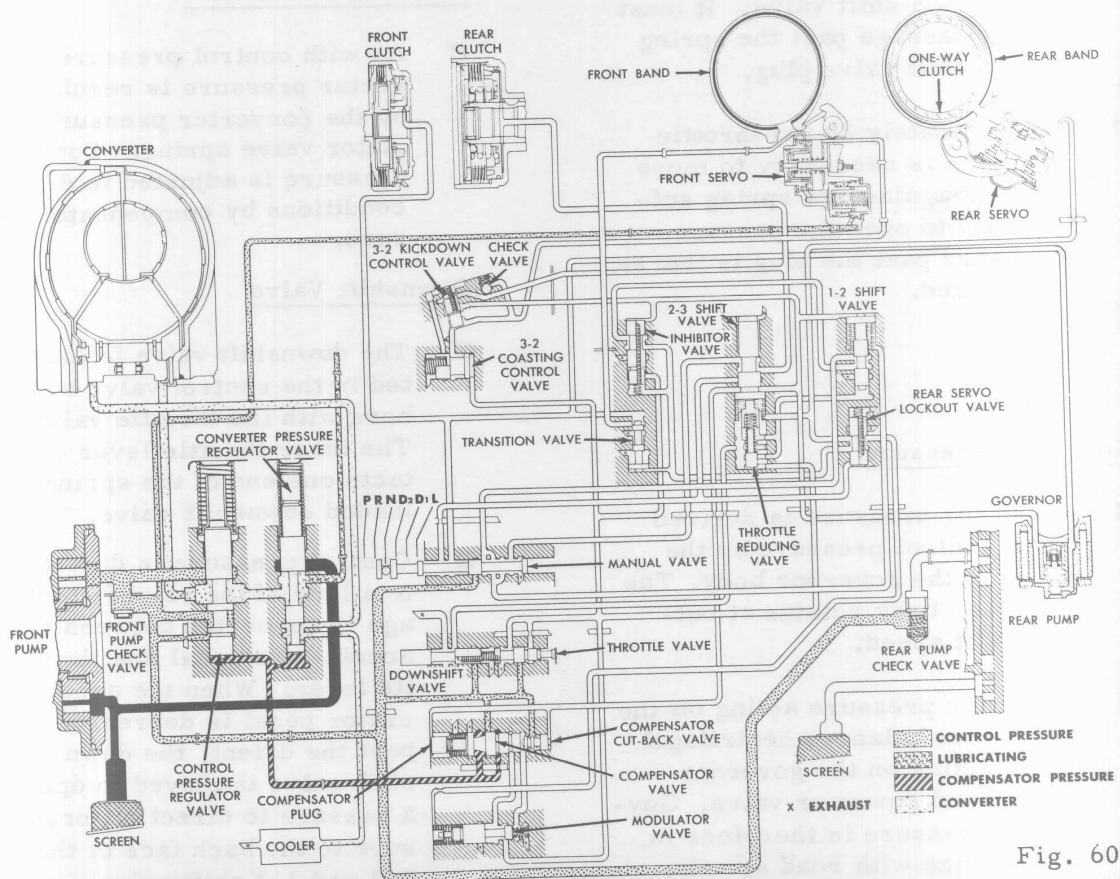

Fig. 60
- When in Drive 1 and Drive 2 ranges, modulated throttle pressure is directed to one face of the compensator valve (Fig. 60). This adjusts compensator pressure to accelerator pedal movement or engine torque.
- ⊗ Control pressure is regulated by the spring loaded control pressure regulator valve (Fig. 60). Control pressure is adjusted to engine torque, road speed, and selector lever position.
- ⊗ The manual valve in Neutral position blocks the oil flow to both clutches and both bands (Fig. 60). The clutches and bands are released by spring pressure with no fluid pressure in the clutches or servos, preventing power from being transmitted to the transmission output shaft.